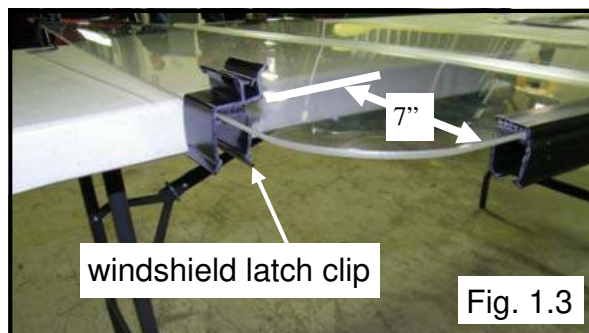

Fig. 1.3
- 1.3** Per figure 1.3, install both windshield latch clips on the bottom of the lower windshield, approximately 7" in from the sides. Seat fully with rubber mallet.